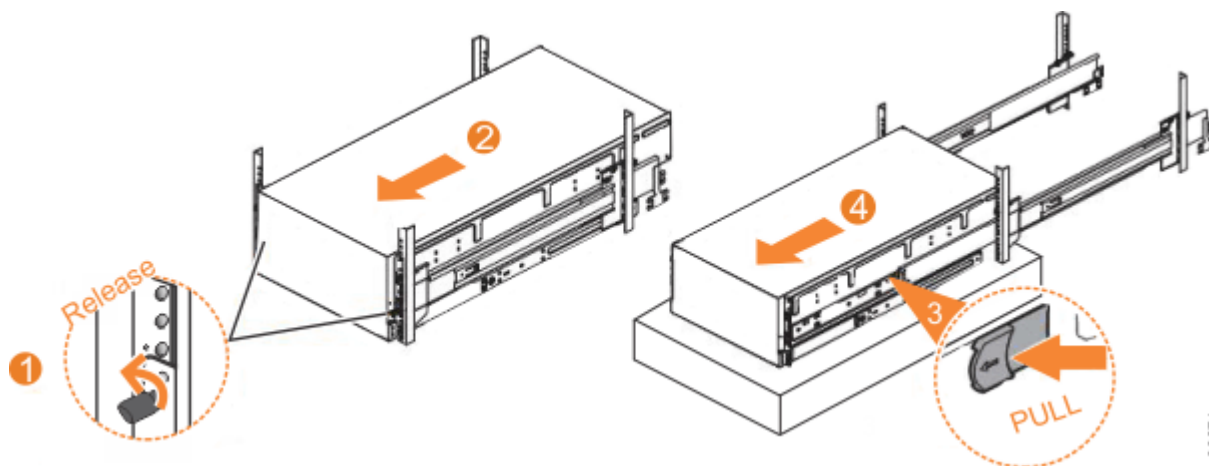

Figure 98. Removing the 5U expansion enclosure from the rack
1. Loosen the locking thumb screws (1) on the front of the enclosure, as shown in Figure 98 on page 146.
2. Carefully slide the enclosure forward out of the rack (2), as shown in Figure 98 on page 146.
3. Locate the left and right blue release tabs near the front of the enclosure. Pull both release tabs forward to unlock the drawer mechanism (3) in Figure 98 on page 146).
4. Slide the enclosure and inner rail member out of the rack (4) in Figure 98 on page 146).